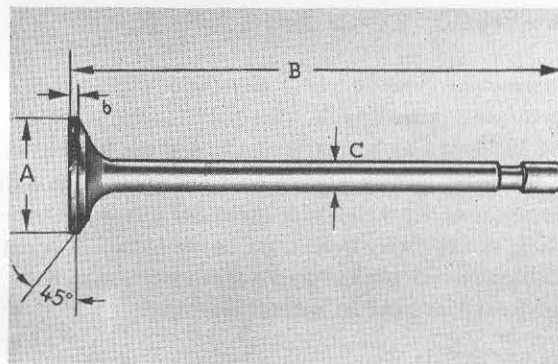

Fig. 123
2. Inspect valve face for wear or pitting. If necessary, reface on dressing machine. When refacing the valves, make certain that --especially in the case of the thermally higher stressed exhaust valves-- the dimension b (see Fig. 123) is not exceeded.